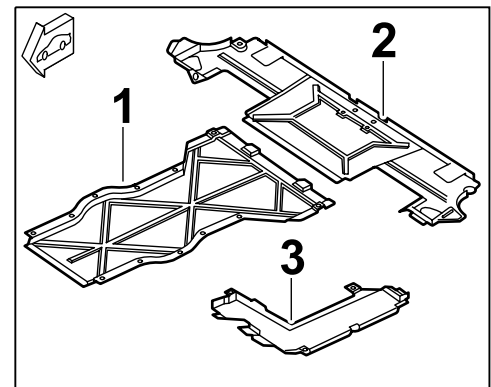

Figure 2
- 1.2 Remove underbody covers (rear and center ⇒ *Figure 2*) ( ⇒ *Workshop Manual '519019 Removing and installing cover for underbody*).
3.4 Install underbody covers (rear and center => Figure 2) ( => Workshop Manual '519019 Removing and installing cover for underbody).